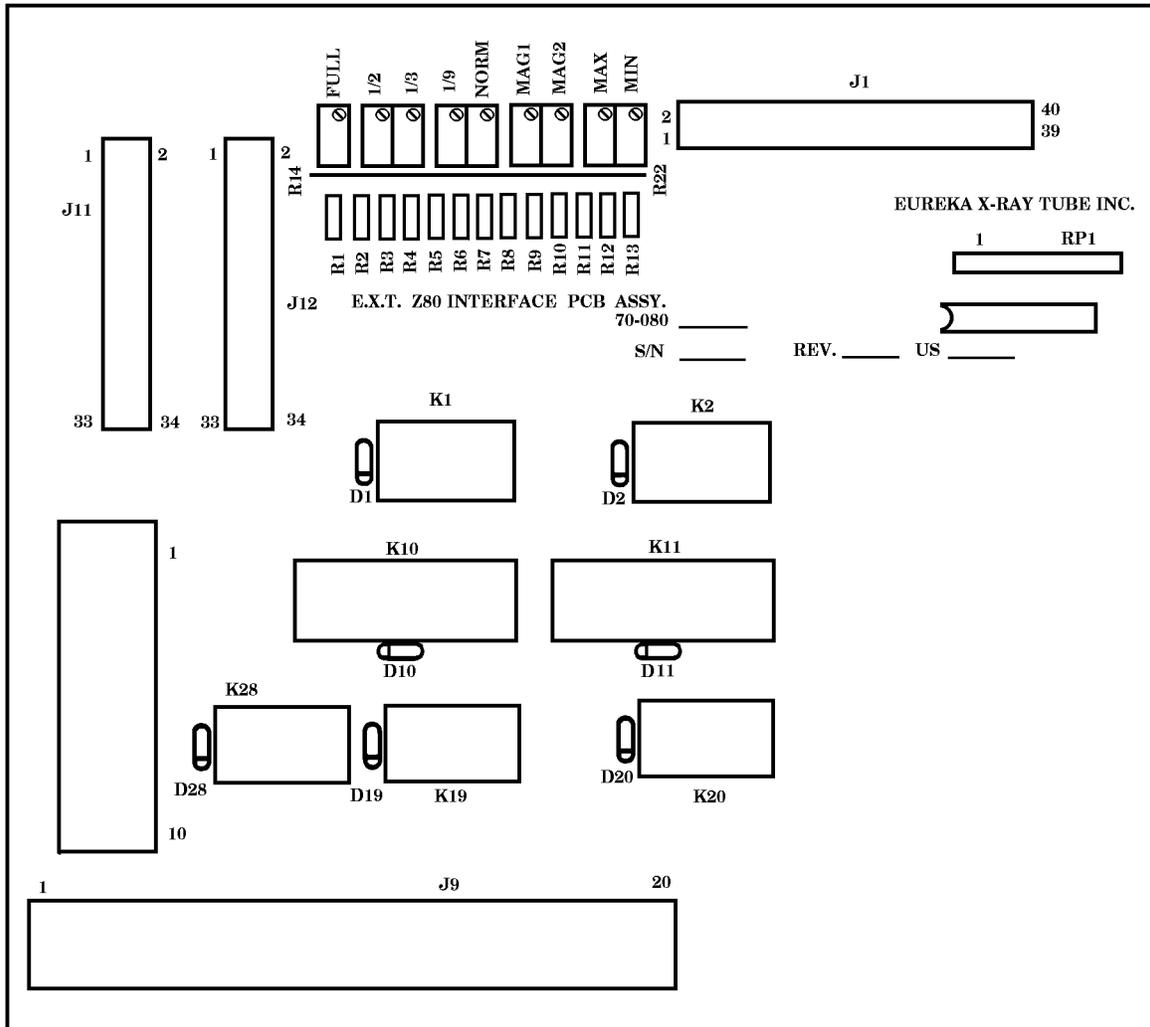

Figure 3-80
(16) Place the CAL/MODE switch, SW2, to position O. The word RUN should be displayed.
(17) Make a radiographic exposure, develop the film, repeat steps 4e(7) through 4e(16) until the exposure is 9-1/8" ( $\pm 1/8$ ) in both directions.
(18) Select <9 On 1> format.
(19) Press PREP and move SW2 to position 7.
(20) If the calibration display reads approximately 130 A/D units, proceed to step 5e(21).
(21) Adjust pot R17 (1/9) on the Z80 Interface PCB (70-08077) clockwise to decrease the value and counterclockwise to increase the value. (See Figure 3-80.)
(22) Move SW2 to O (Run) position, then while pressing the PREP push button, move SW2 to position 7.
(23) If calibration display reads approximately 130 A/D units, proceed to step 5e(24). If this criteria is not met, repeat steps 5e(21) and 5e(22).
(24) Make a radiographic exposure in the <9 On 1> format.